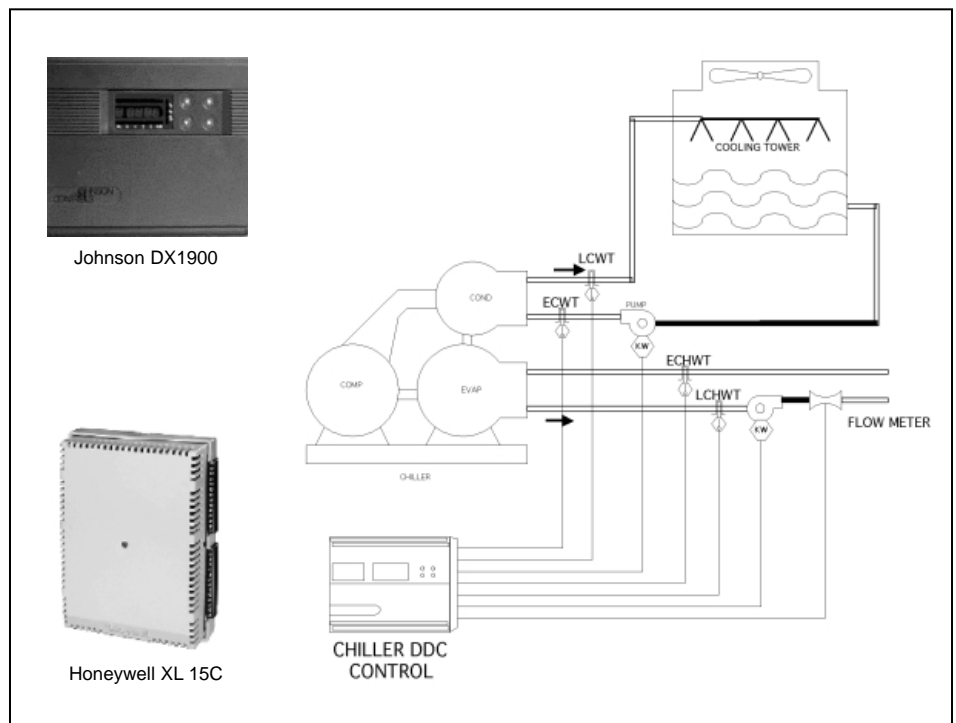

Figure 1
1. Accurate chiller system assessments must account not only for the chiller operation, but also must look at the impact on the **cooling lower, condenser water pumps and chilled water pumps.** (see figure 1)